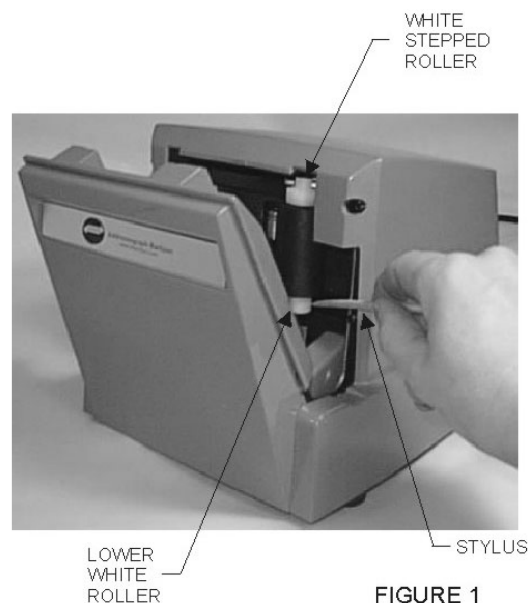

FIGURE 1
2. Position the stylus that was supplied with the machine behind the lower white roller. Gently pull the inked roller assembly outward. (Figure 1)